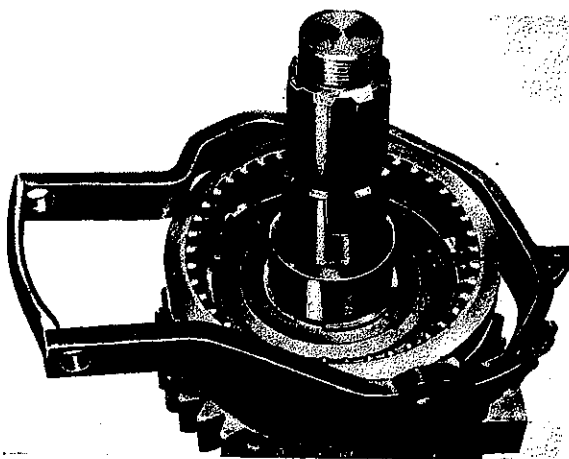

Fig. 28
8. Place two slide pieces (607) into shift fork (608). Place sliding sleeve (427) into shift fork. Narrow, smooth end of sleeve should be at elevations for slide piece bores (refer to Fig. 28).
Place sliding sleeve (427) on synchronizer. Make sure that the ball pins enter into the teeth cut out lowest (Fig. 28). Smooth side of sleeves pointing upwards.